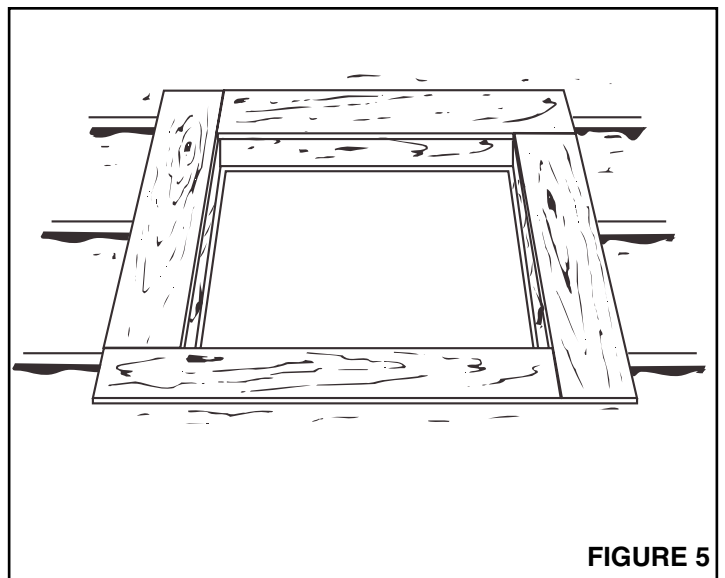

FIGURE 5
- Refer to Figure 5.** Nail 2" x 6" lumber laid flat, around the framed opening to form a platform for the fan. If ceiling joists are 2" x 6" or larger, 1" x 6" lumber can be used.